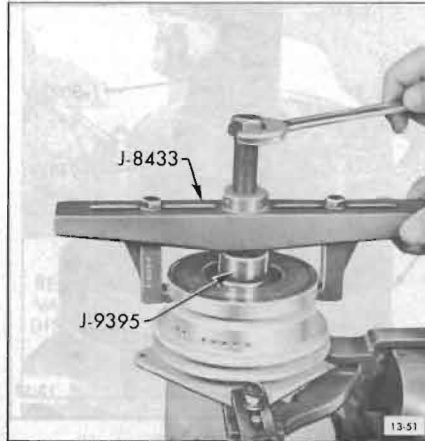

Figure 13-51—Removing Pulley Assembly
3. Place puller pilot (J-9395) on hub of front head and take off pulley assembly (see Figure 13-51), using pulley puller (J-8433).